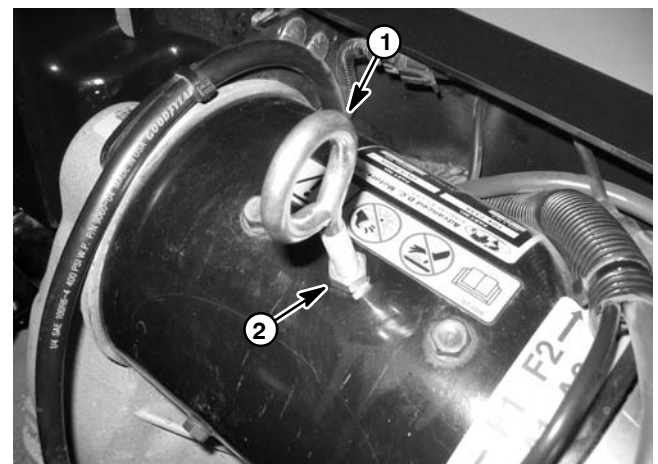

Figure 54
A. Remove silver flange head screw from top of motor and carefully install a 3/8 – 16 eyebolt into motor (Fig. 54). Thread eyebolt into motor approximately four (4) turns taking care to not bottom eyebolt into internal field coils. Secure eyebolt with jam nut. Use eyebolt for support and as a lifting point for motor removal.
7. Remove six (6) socket head screws (item 1) and flat washers (item 2) that secure motor to transaxle.
10. If needed, remove two (2) roll pins from motor shaft.